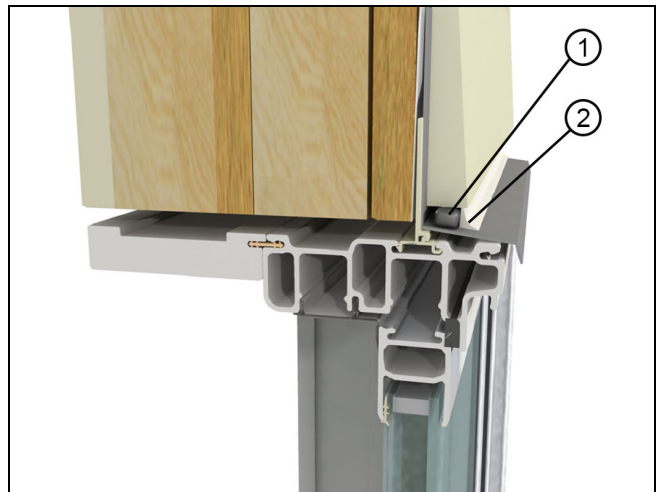

Figure 28
2. After exterior finish or siding is installed, apply sealant around the exterior perimeter of the unit frame or casing. As needed, insert backing material between the frame or casing and the structure to provide a proper sealant joint. Sealant depth must be equal to width between unit and exterior finish material (brick and masonry apply). Always refer to the manufacturers' recommendations for proper surface preparation and application. See Figure 28.